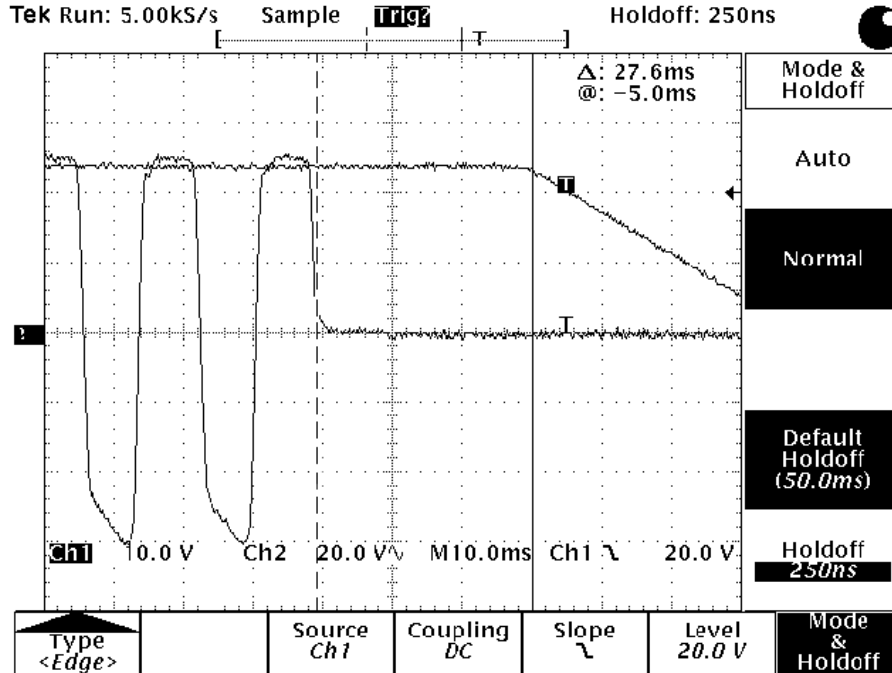

Figure 4: Holdup Time
- 4.7.3 Find out where you are within the cycle, to make sure you have zero crossing correct to within  $\pm 1$  milliseconds. Turn the AC source off. The oscilloscope should have triggered as the output voltage decreased below the trigger threshold. The oscilloscope should display the AC and DC waveforms similar to the sample plot in Figure 4.
- 4.7.4 The holdup time is the time duration of when the AC input voltage is removed to the time until the output voltage falls below the minimum specification. The AC input voltage shall be removed within  $\pm 1$  milliseconds of the zero crossing. This is shown in Figure 4 by the two vertical cursors. Record the holdup time.